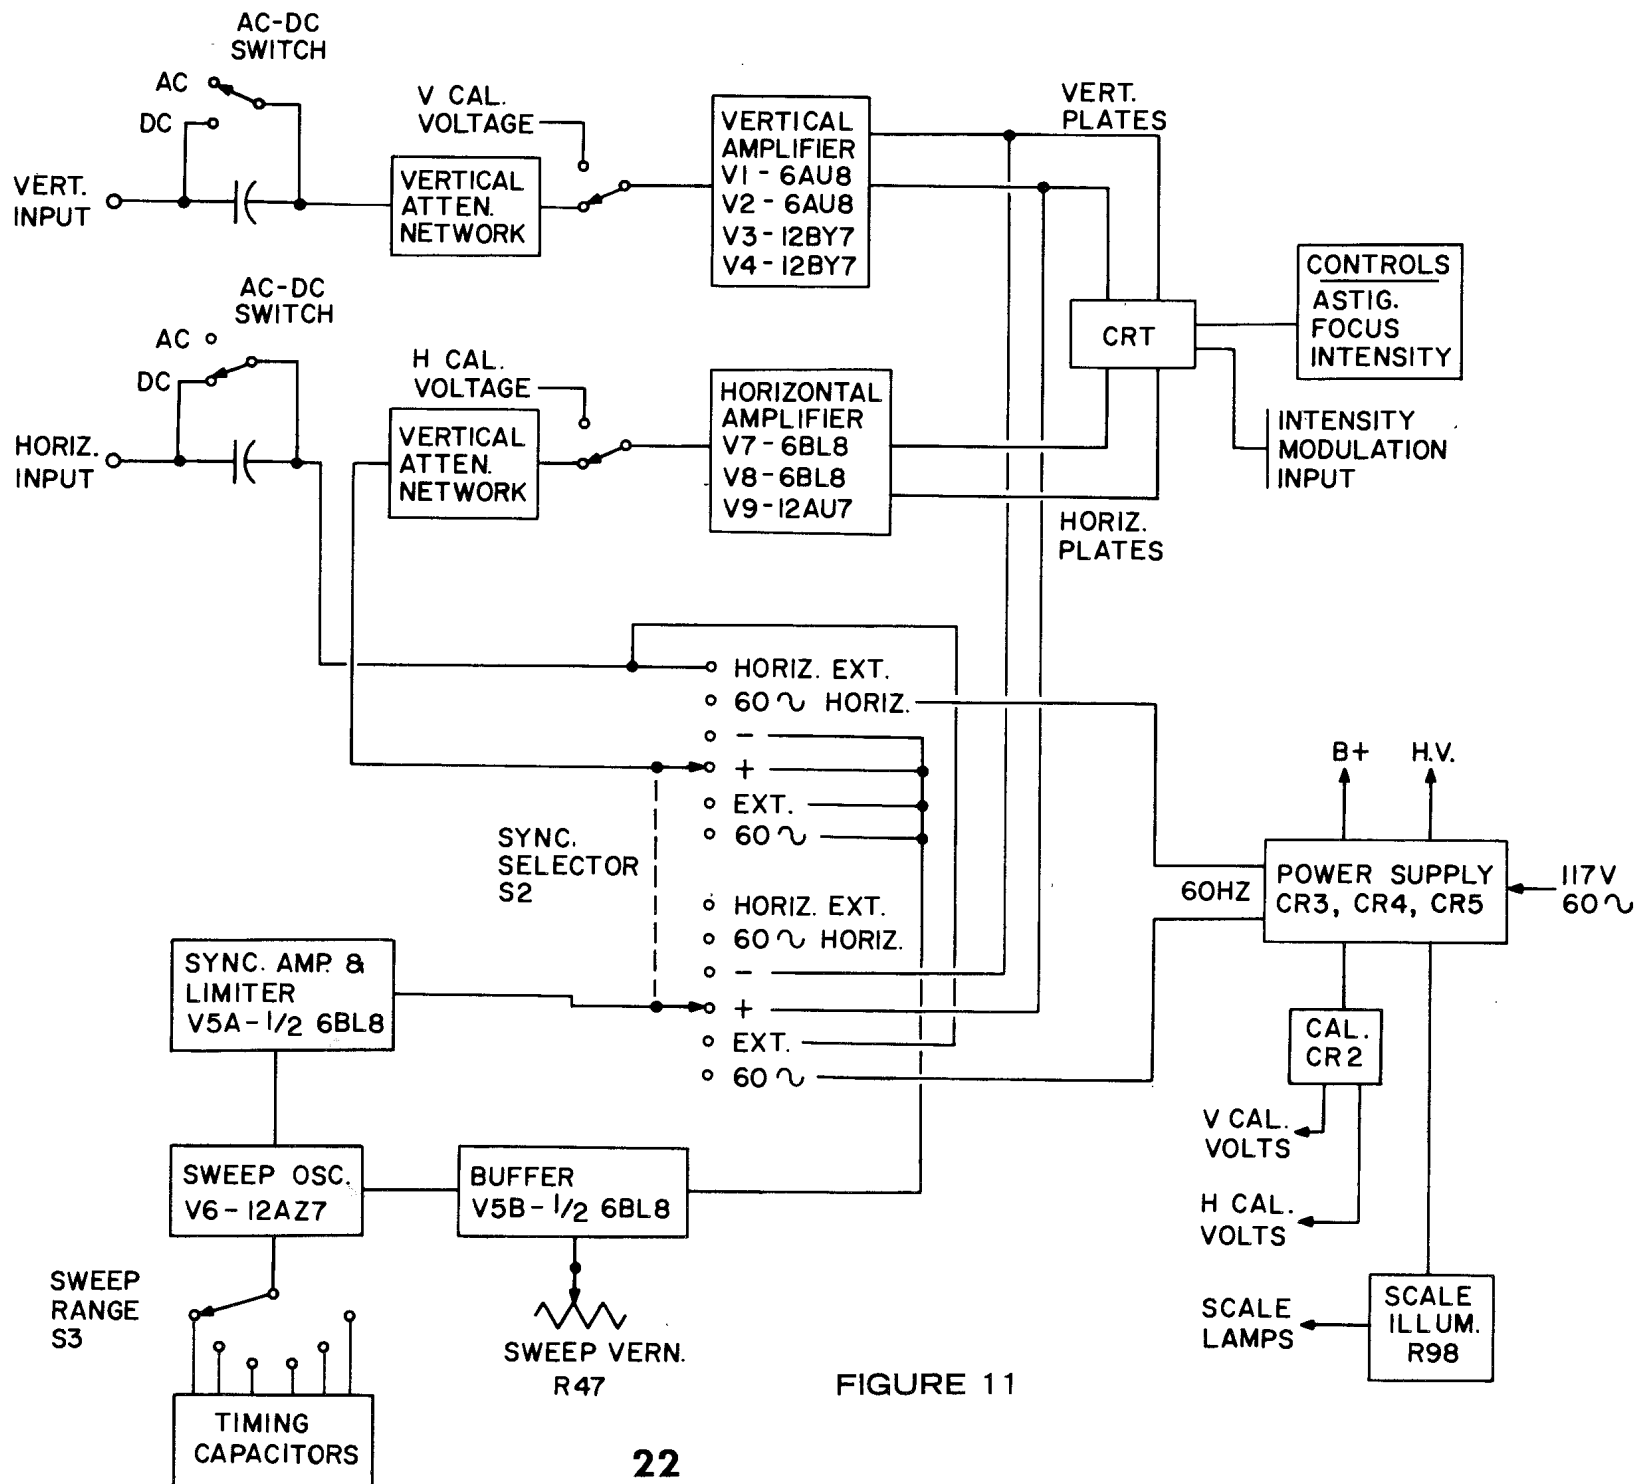

FIGURE 11
- a. The block diagram (Fig. 11) should aid in isolating the circuit in which the trouble is located. Once this is done, refer to the appropriate section of the schematic. The next step is to localize the problem to a particular tube circuit, and if required, replace the tube. If the trouble is not eliminated, use the voltage and resistance tables provided.